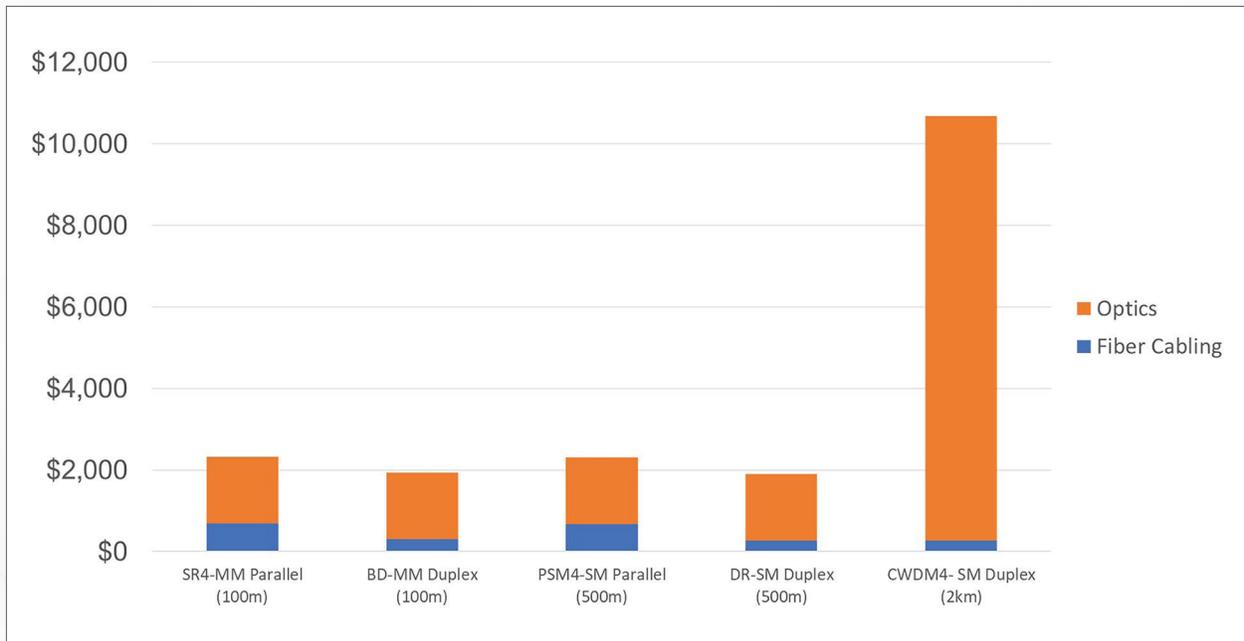

Figure 1: 100G channel pricing, based on average list pricing.
As shown in Figure 1, the cost of a 100GBASE-DR singlemode system is also now on par with or less than 100 Gb/s multimode applications, including the 100GBASE-SR4 parallel optic multimode application and 100 Gb/s bi-directional (BD) multimode applications.